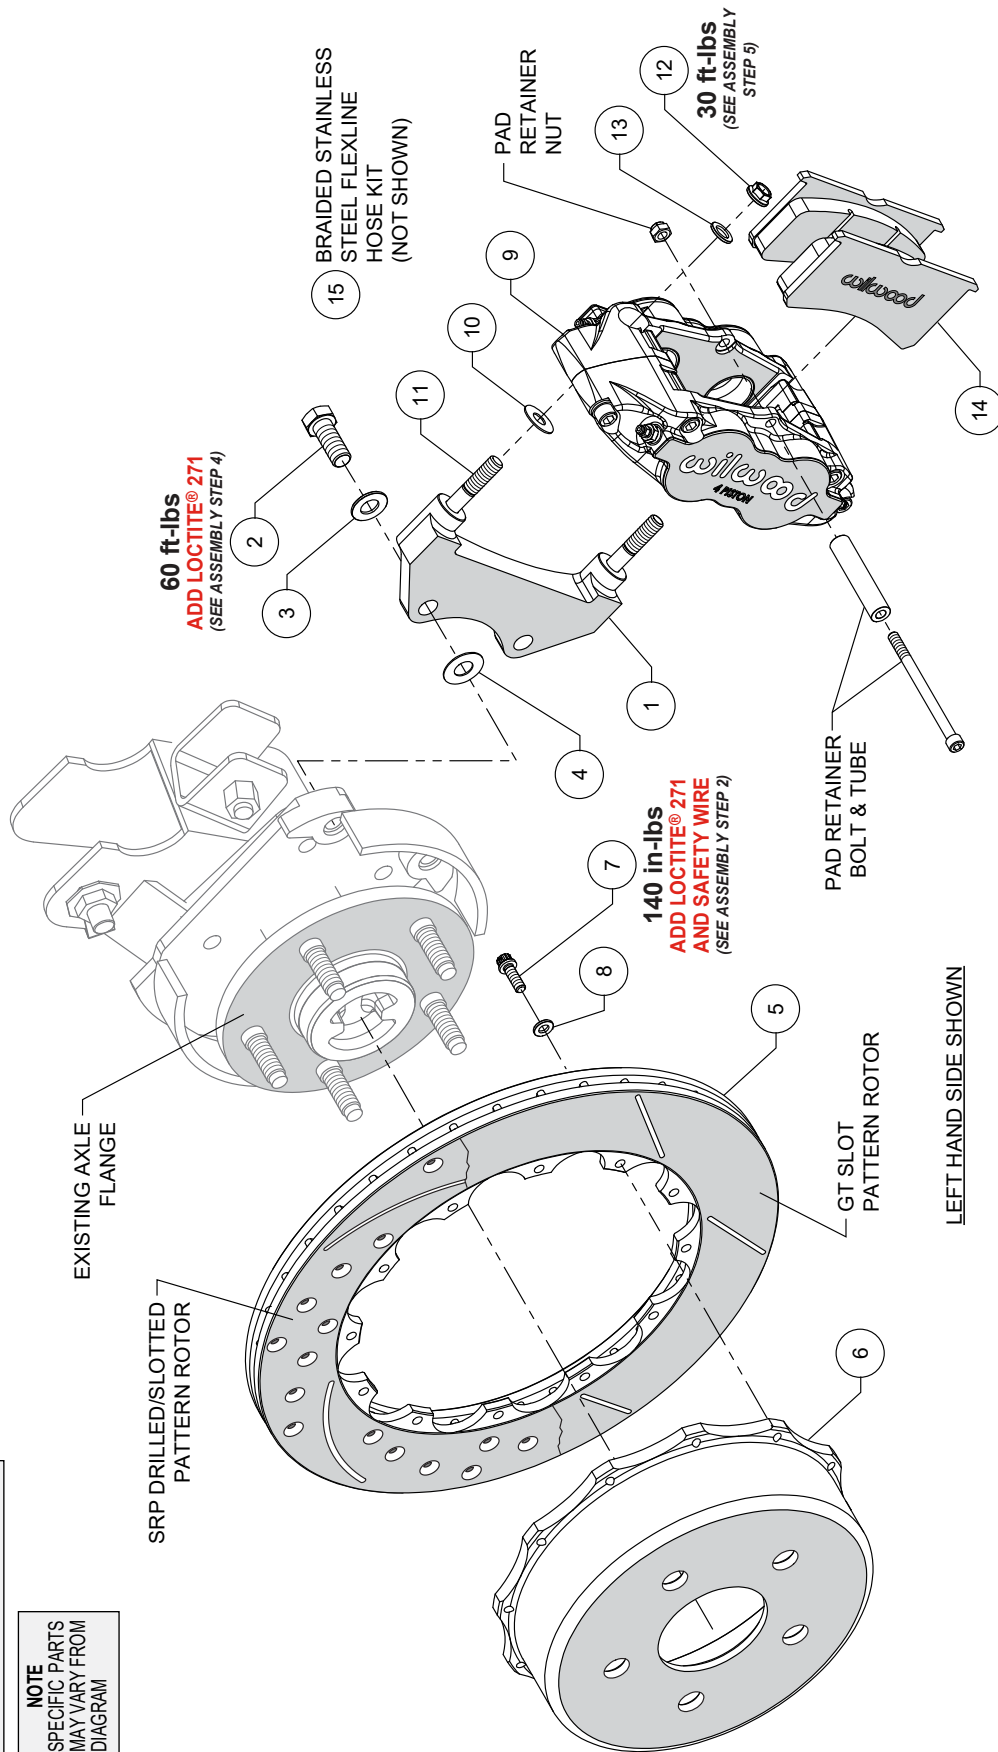
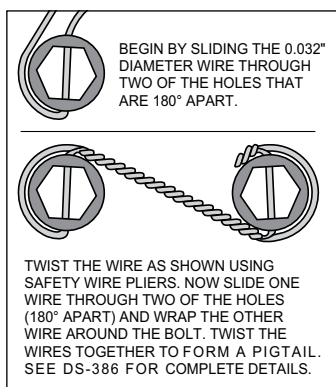

Figure 1. Typical Installation Configuration
Figure 3
Numbers in parenthesis refer to the parts list and Figure 1 on the preceding pages.
**STEP 1** The caliper mount bracket (1) should initially be installed with clean, dry threads on the mounting bolts. Orient the bracket as shown in Figure 1 and Photo 1, and install using mount bolts (2) and washers (3). Initially place one .033" thick shim (4) on each bolt between the bracket and upright, Figure 1. Temporarily tighten the mounting bolts. **NOTE:** The bracket must fit squarely against the mount bosses on the upright. Inspect for interference from casting irregularities, machining ridges, burrs, etc. Later, after the caliper alignment has been checked, the mount bolts will be secured using red *Loctite*® 271.
**STEP 2** Orient the rotor (5) and the hat (6) as shown in Figure 1 and Photo 2. Attach rotor to hat using bolts (7) and washers (8). Apply red *Loctite*® 271 to the bolt threads and torque to value shown in Figure 1 using a criss-cross pattern. The bolts must be safety wired using standard 0.032 inch diameter stainless steel safety wire as shown in Figure 3. Refer to Wilwood's data sheet DS-386 (available at [www.wilwood.com/Pdf/DataSheets/ds386.pdf](http://www.wilwood.com/Pdf/DataSheets/ds386.pdf)) for complete safety wire installation instructions.
**STEP 3** Slide the rotor/hat assembly (5/6) onto the axle hub, Figure 1. **NOTE:** The hat must fit flush against the axle hub flange or excessive rotor run out may result. Install three lug nuts (finger tight) to keep the rotor/hat assembly in place while continuing with the installation.
**STEP 4** Initially place one .035" thick shim (10) on each stud (11) as shown in Figure 1 and Photo 3. Mount the caliper (9) onto the bracket (1) using lock nuts (12) and washers (13), Figure 1. Temporarily tighten the lock nuts and view the rotor through the top opening of the caliper. The rotor should be centered in the caliper, Photo 4. If not, adjust by adding or subtracting shims (4) between the bracket and the mounting bosses. Always use the same amount of shims on each of the two mounting bolts. Once the caliper alignment is correct, remove the bracket mounting bolts (2) one at a time, apply red *Loctite*® 271 to the threads, and torque to value shown in Figure 1.
**STEP 5** Remove the caliper pad retainer bolt, locknut, and tube from the caliper. Insert the brake pads (14) into the caliper, with the friction material facing the rotor, as shown in Photo 5. Check that the top of the brake pad is flush with the outside diameter of the rotor, Photo 6. If not, adjust by adding or subtracting shims (10) between the caliper and the bracket. After the caliper pad height is set, torque the caliper lock nuts (12) to value shown in Figure 1. Secure the brake pads in place with the pad retainer tube, bolt, and locknut.